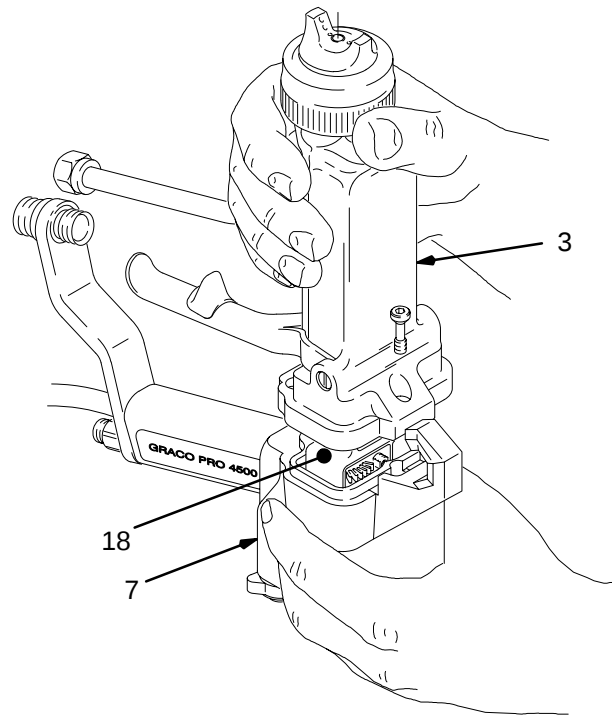
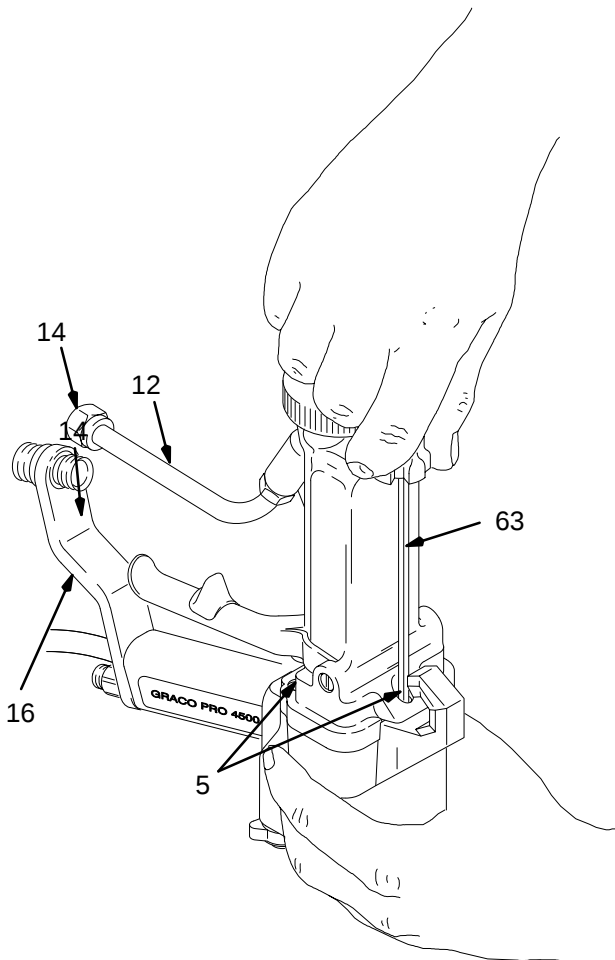

Fig. 15
Fig. 14
2. Carefully loosen the nut (14) from the bracket/fluid fitting (16). Pull the tube (12) out of the fitting. Make sure both ferrules and the nut stay with the tube. See Fig. 14.
3. Using the wrench (63) supplied, loosen the three socket head cap screws (5).
4. Hold the gun handle (7) with one hand and pull the barrel (3) straight away from the handle to remove it. See Fig. 15.